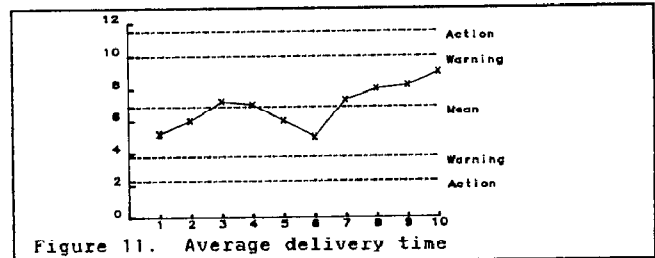

Figure 11. Average delivery time
**XBAR CHART** Use to monitor the average of samples, or to plot an individual variable. (Figure 11)